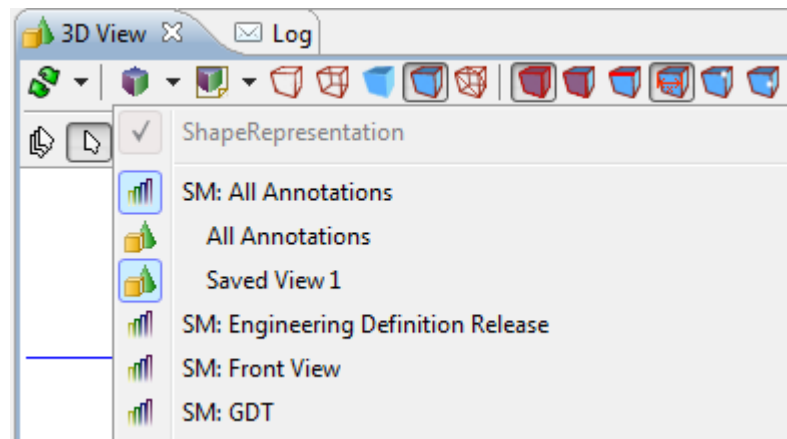

Figure 3. Created Saved View 1 in the drop down list
- The saved view is located under the currently active styling model (see Figure 3). **Note.** The parent styled model is activated together with the saved view (both of them are highlighted in the context sensitive menu).